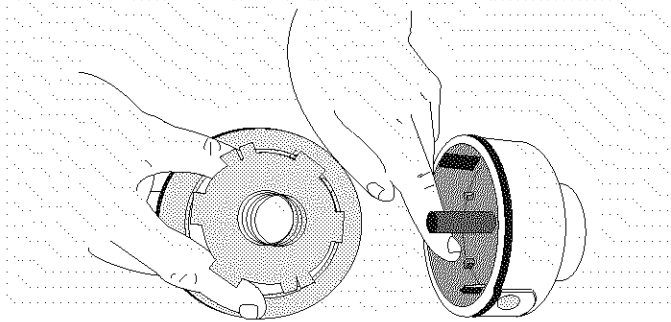

Fig. 22
4. Check the indexing teeth on the reel and reel housing for wear. If necessary, remove any burrs or replace the reel or reel housing (Fig. 22).